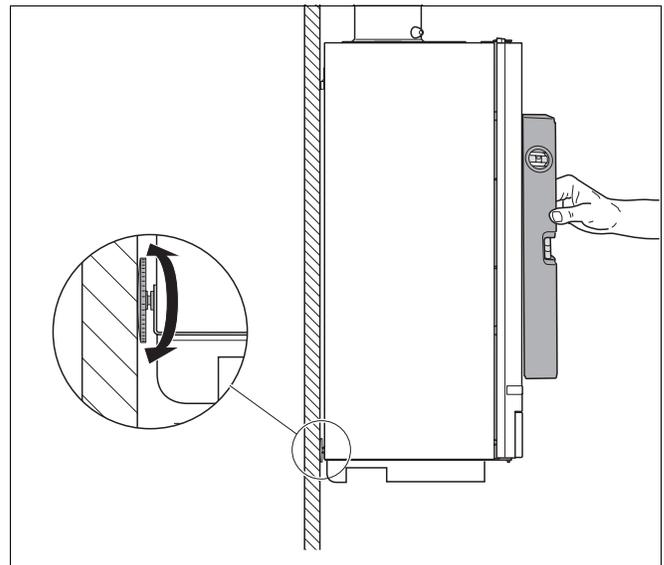

Fig. 8 Aligning the boiler with the set screw
- Level the boiler with the set screw and a spirit level (fig. 8).